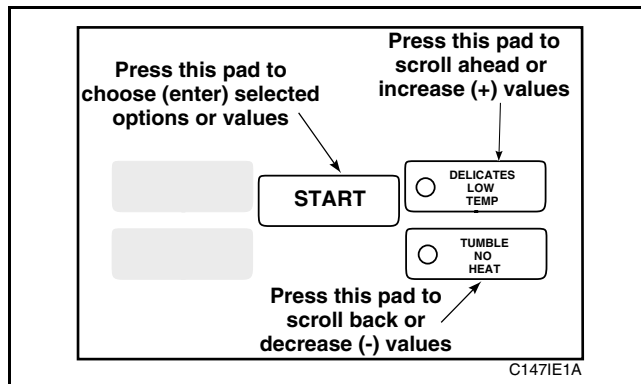

Figure 15
5. Press the LOW TEMP (+) pad or the NO HEAT (-) pad to increase or decrease the current number of coins to the desired number of coins, *Figure 15*.